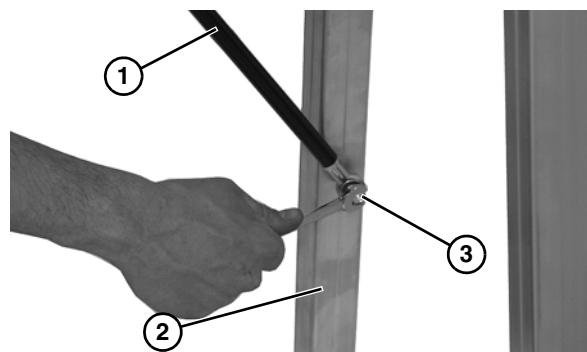

Figure 5
1. Install the end of brace with non-threaded hole (**Figure 5, item 1**) onto the inside of the stand (**Figure 5, item 2**).
2. Secure the brace with a hex head bolt and nut (**Figure 5, item 3**).